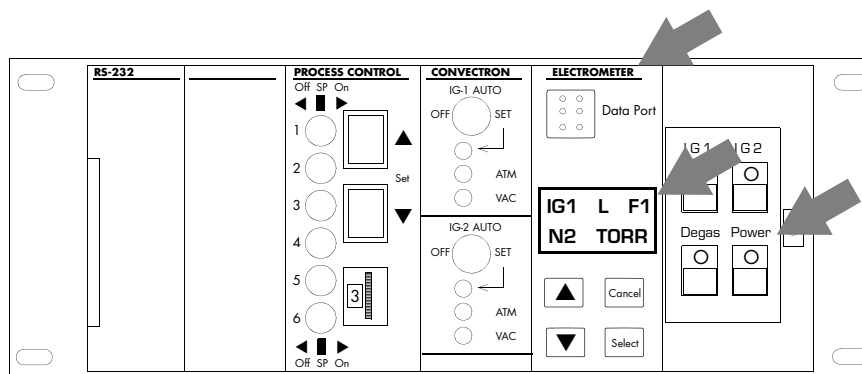

Figure 4-1 Control Unit (with Door Open) Showing Electrometer Module, Liquid Crystal Display, and Power Switch
Turn on the Stabil-Ion System by pressing the Control Unit Power switch. See Figure 4-1. The LED will illuminate.
- Open the front door of the Control Unit and locate the Electrometer Module and liquid crystal display (LCD). See Figure 4-1. Five status, control, setup, and information menus may be viewed on the display.